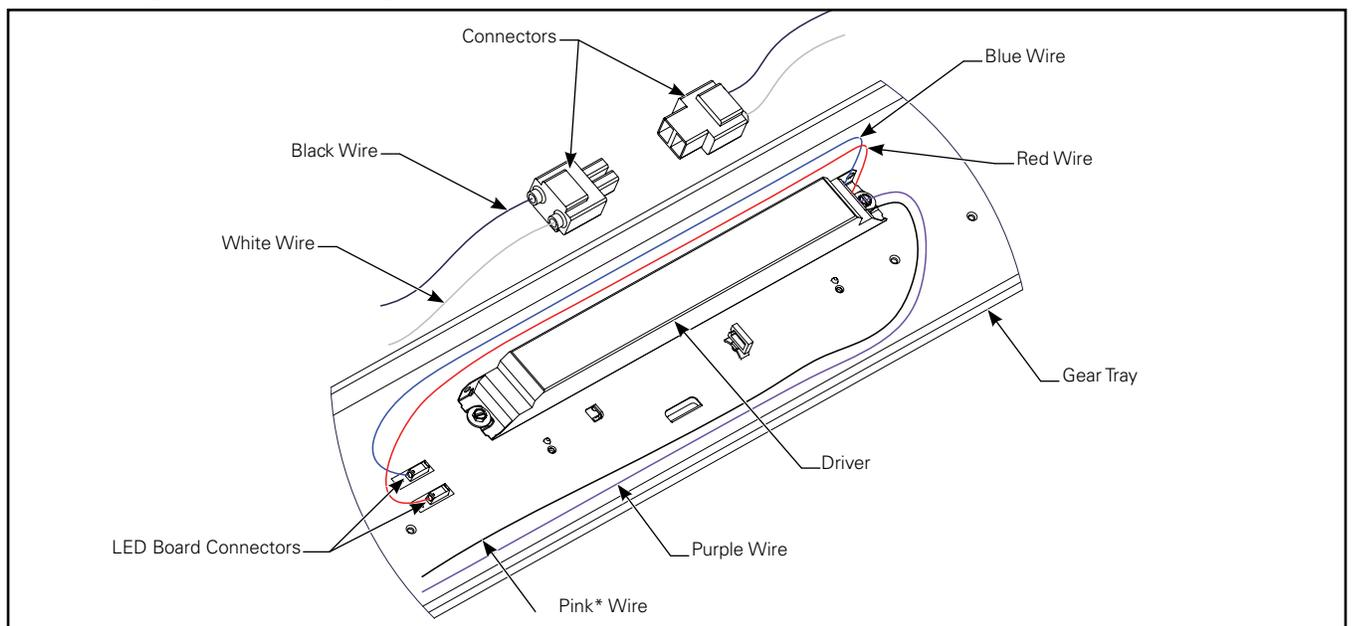

Figure 3.
- Connect all of the fixture wires to power supply wires: White to White, Black to Black and optional Blue wire for EM version. If applicable connect Purple and Pink* wires to dimming system wires (Figure 3)*. Use provided Green screw to connect ground wire to existing fixture.